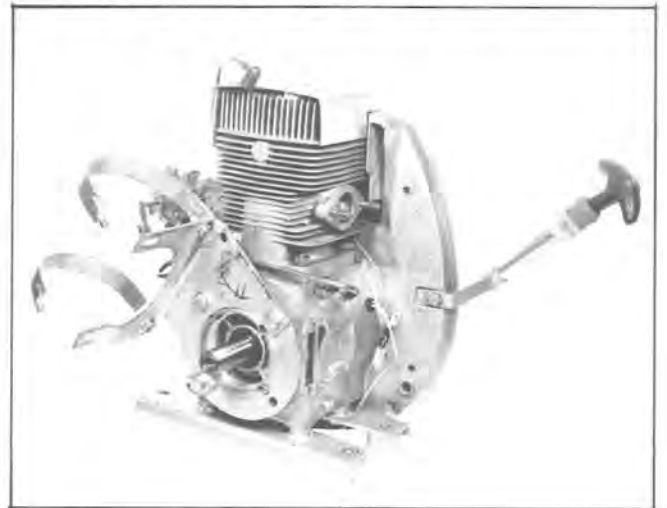

Fig. 56 — Drive Pulley Side of Crankshaft on L 380 Engine
- e. Place a "slug" into inner diameter of pulley (make sure that "slug" is large enough to prevent damage to internal threads of crankshaft) then reinstall pulley bolt and use it as a puller to force pulley from crankshaft. See Figs. 56 and 57.